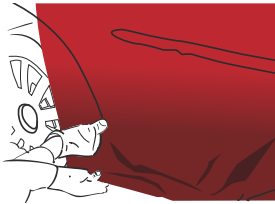

Figure 10
- › Apply the peak with your finger or a felt-covered plastic squeegee. (FIG. 10)